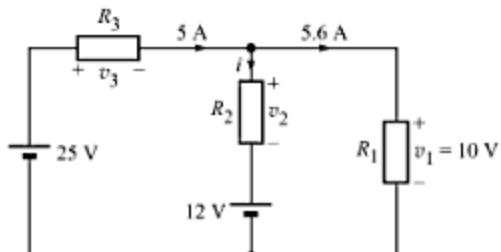

Fig. 3.68
9. Use KCL, KVL and Ohm's law to find v_2 , v_3 , i , R_1 and R_3 , in the circuit of Fig. 3.68. [Ans. $i = -0.6 \text{ A}$, $v_2 = -2 \text{ V}$, $v_3 = 15 \text{ V}$, $R_1 = 1.79 \Omega$, $R_3 = 3 \Omega$]